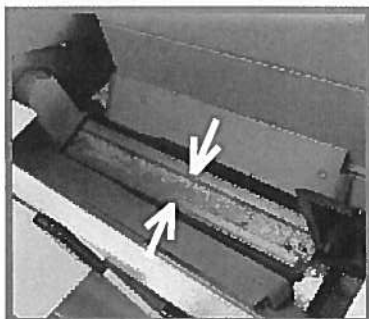

Fig. 20
- Grease the sliding pads of the push-block (Fig. 20)